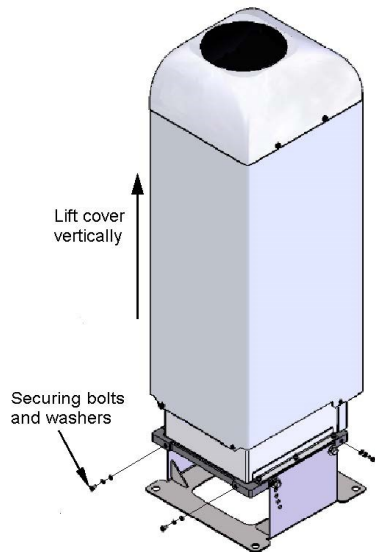

FIGURE 4-7. Removing the cover
1. Remove four screws (FIGURE 4-7 (p. 23)).